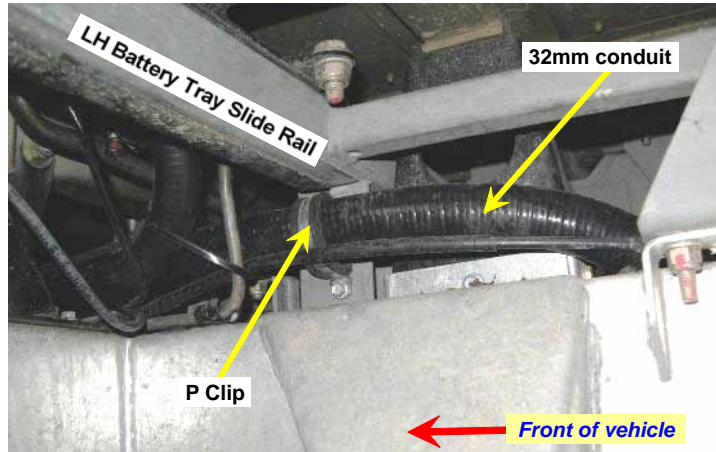

Figure 23 First Attachment Point on the Top of the Left-hand Chassis Rail
- (8) After the conduit passes onto the top of the chassis rail, use another P clip and a Tek screw to secure it just below the left-hand side battery tray slide rail as shown in Figure 23.